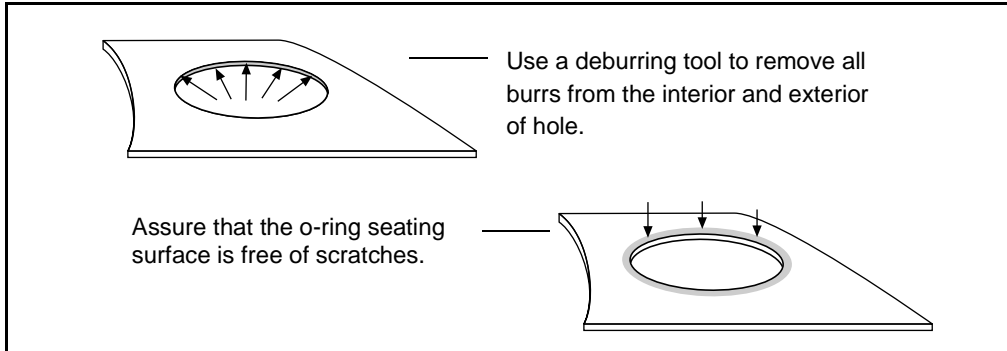

Figure 2.15 Burr Removal and O-Ring Seal Surface Inspection
2. Carefully remove burrs from the underside of the hole and remove paint in a narrow ring around the hole (see Figure 2.15).